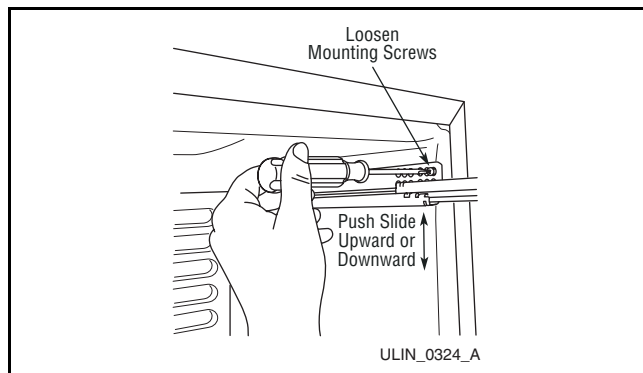

Figure 53
3. Retighten the screws (**Figure 53**).